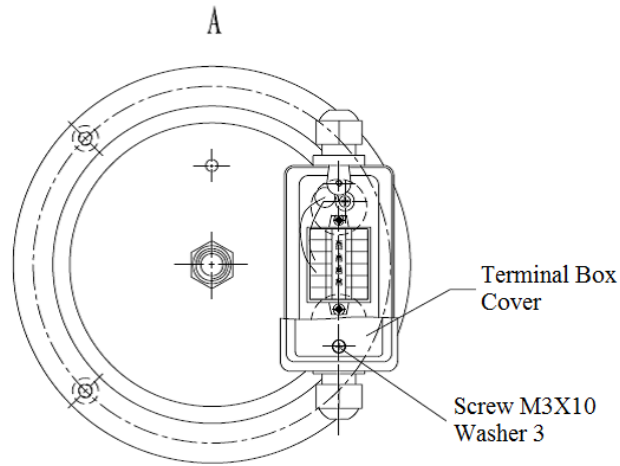

Figure 28 Emergency Brake Terminal box
2. Remove the terminal box cover and disconnect the wiring to the brake. See figure 28.